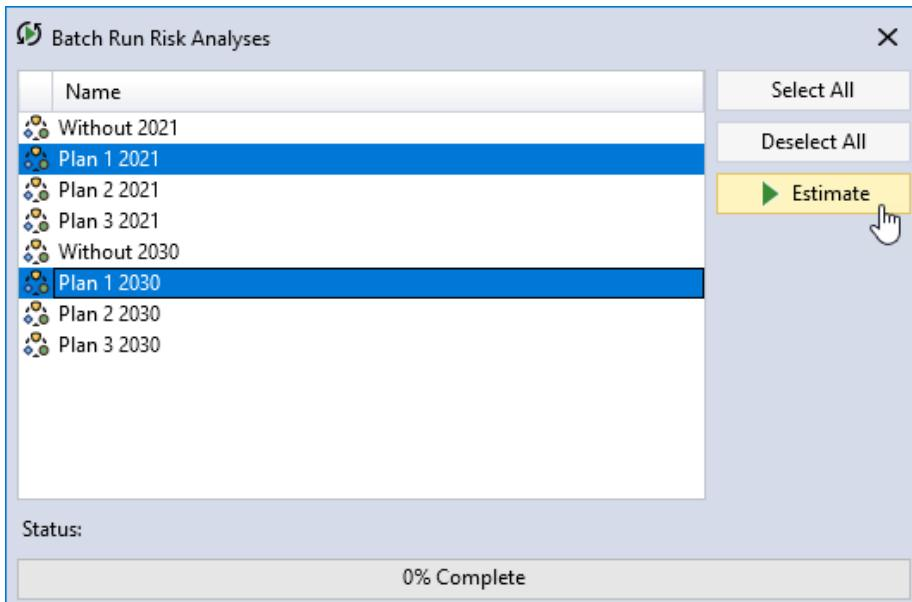

Figure 4.9: Batch Run Risk Analyses tool.
- **Batch Run** (Figure 4.9) simulates multiple risk analyses as a batch process. Batch processing is very useful when inputs have been changed that are common across multiple risk analyses.